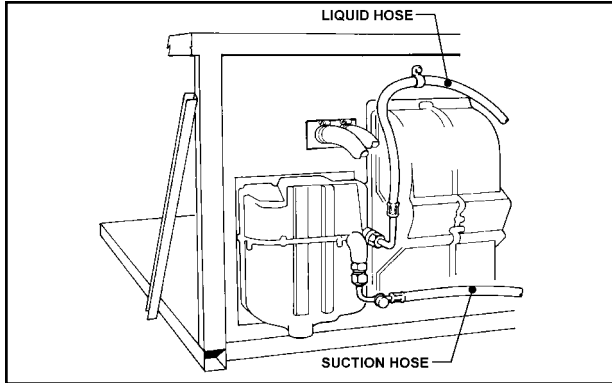

Figure 56: Liquid and Suction Hoses
- Remove suction and liquid lines from cooling unit. (Fig. 56)